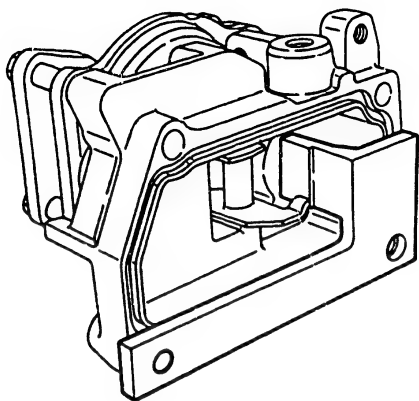

Fig. 45 Attaching the block gauge
- 3 Securely attach the block gauge (KDEP 1152) to the boost compensator as shown in fig. 45.